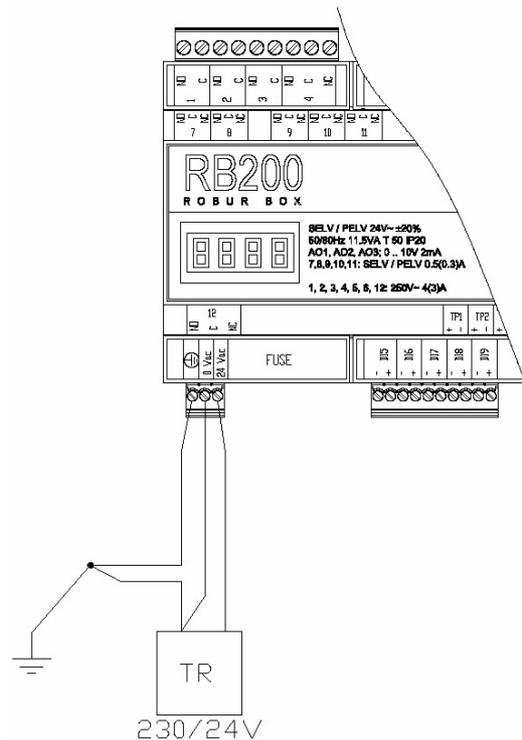

Figure 9 RB200. Example of mains connection: power supply 24 Vac 12VA SELV/PELV
DESCRIPTION OF RB200 CONNECTIONS SHOWN IN FIGURE 9 (above)
4. Connect to the safety transformer 230 Vac/24Vac with a cable minimum section $3 \times 0.75 \text{ mm}^2$, as shown in Figure 9, respecting the polarity.